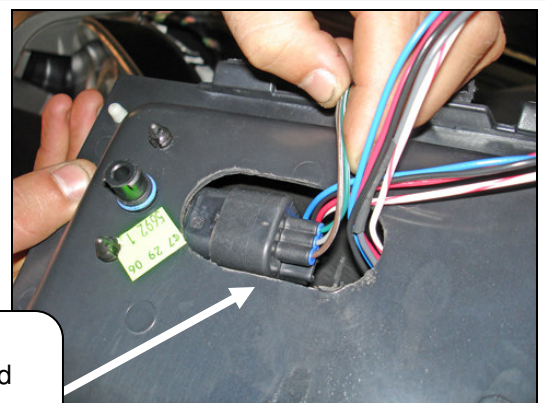

Figure 11
11. Connect the vehicle harness to the gauge pod ambient temperature sensor (see Figure 11).